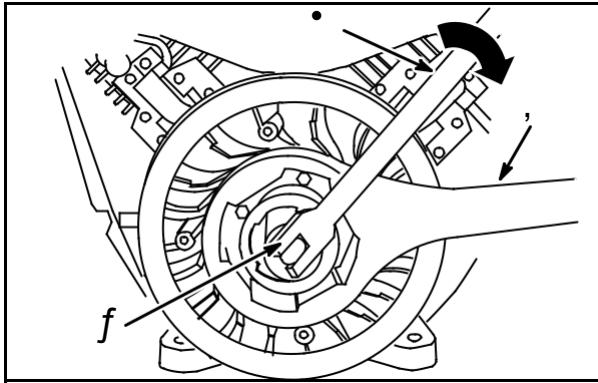

Fig. 17
Assemble Flywheel Holder #19321 (2) to retainer, **Fig. 17**.